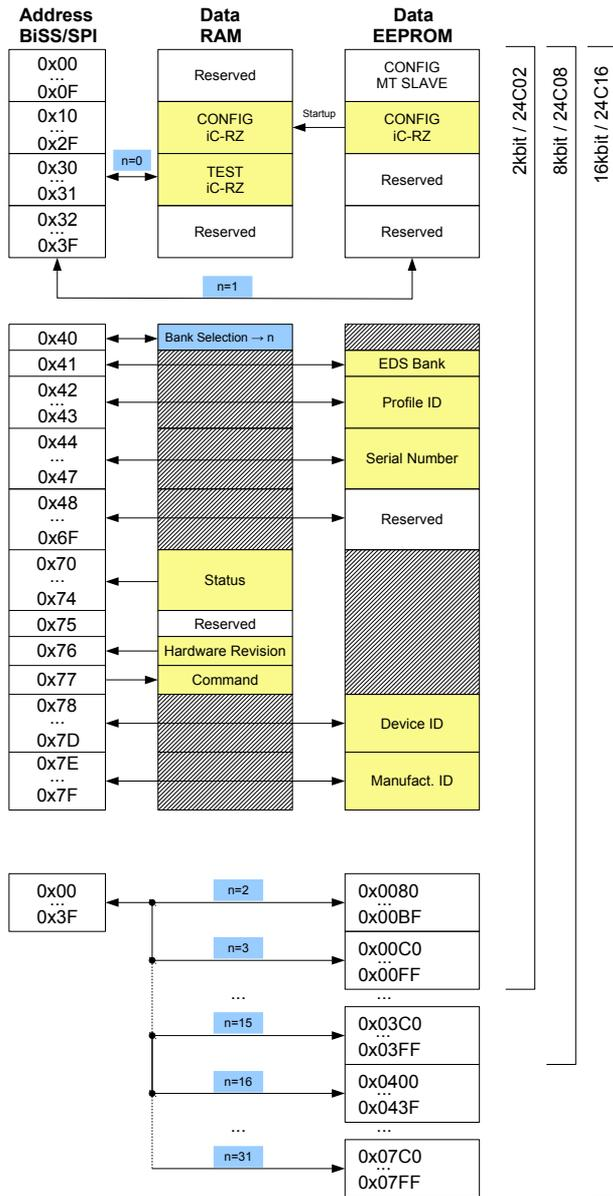

Figure 38: EEPROM register map with I2CDEV = 0x00
The different memory banks can be addressed with BSEL. With I2CDEV set to 0x0, BSEL is used to address the EEPROM memory range from 0x000 to 0x7FF (11-bit address range) as well as the internal RAM content. Bank 0 selects the internal RAM content with the configuration parameters (refer to chapter REGISTER MAP (SC)). Starting with bank 1 the EEPROM is addressed. The memory map in Figure 38 summarizes the accessible registers and the EEPROM areas using the parameter BSEL.